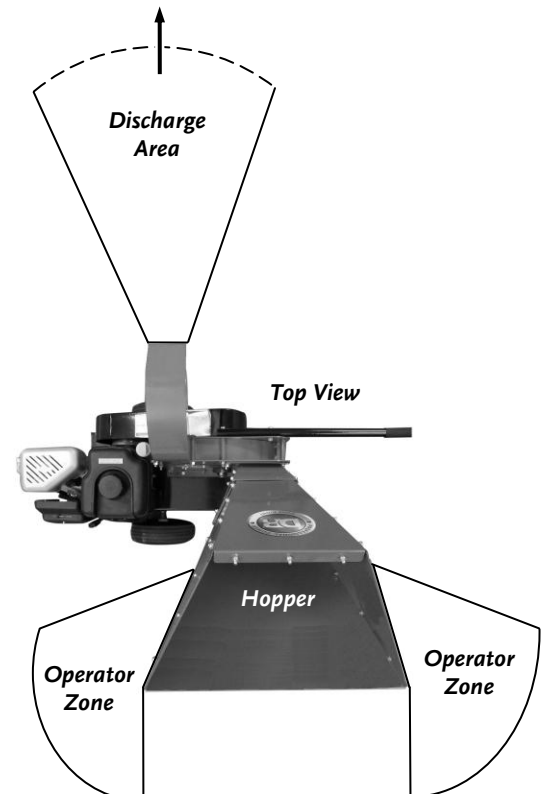

Figure 14
- Only operate the DR SELF-FEEDING WOOD CHIPPER from the Operator Zones (**Figure 14**).